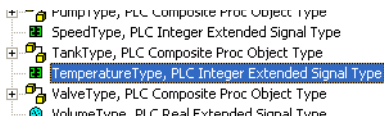

Figure 29. Selected Signal Type
- 2. Select the PLC branch object, and then a signal type. In this example, ‘TemperatureType’ is selected, see also Figure 29.